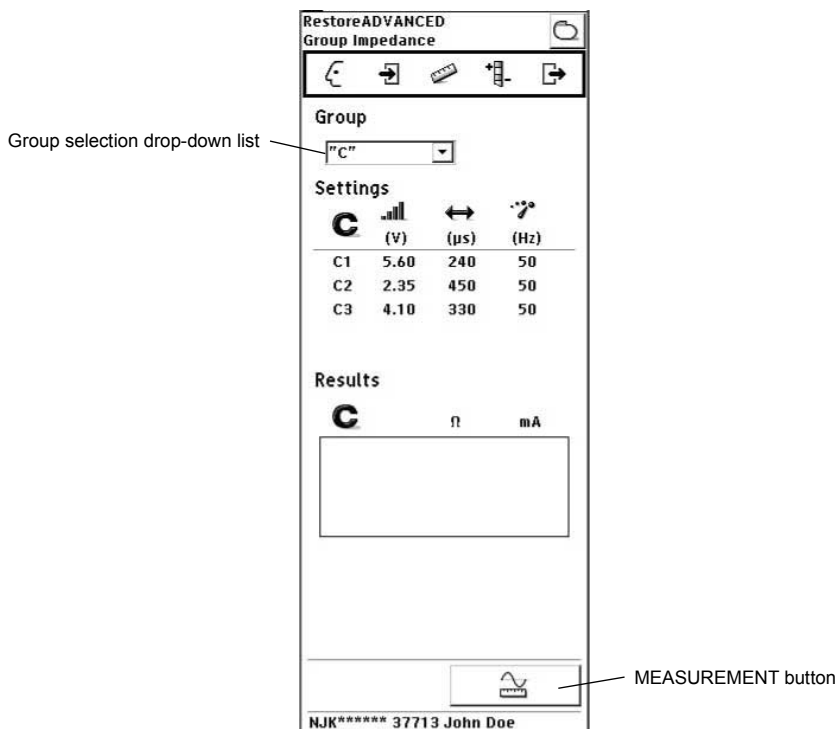

Figure 22. GROUP IMPEDANCE screen.
3. Select a group from the group selection drop-down list (Figure 22).
4. Select the MEASUREMENT button (Figure 22).